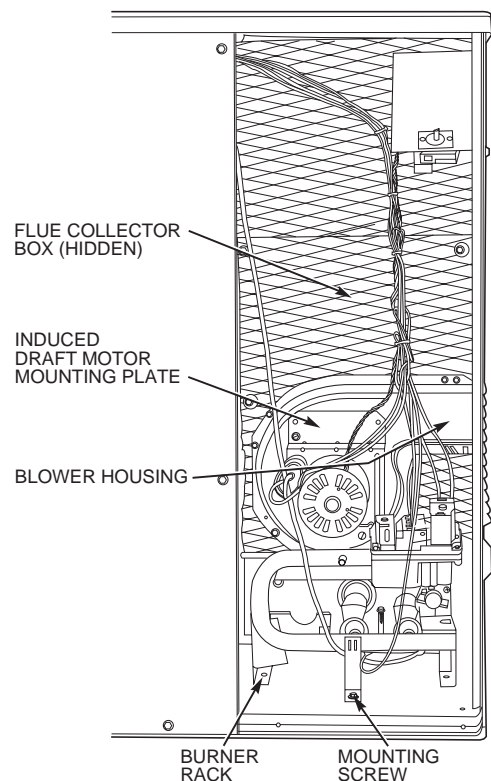

Fig. 25 — Blower Housing and Flue Collector Box
2. Remove the 3 screws holding the blower housing to the flue collector box cover (see Fig. 25).
3. Remove the 12 screws holding the flue collector box cover (Fig. 25) to the heat exchanger assembly. Inspect the heat exchangers.
2. Remove the 7 screws that attach induced-draft motor mounting plate to blower housing. (See Fig. 25.)
7. Remove the mounting screw that attaches the burner rack to the basepan. (See Fig. 25.)
8. Slide the burner rack out of the unit. (See Fig. 25 and 28.)